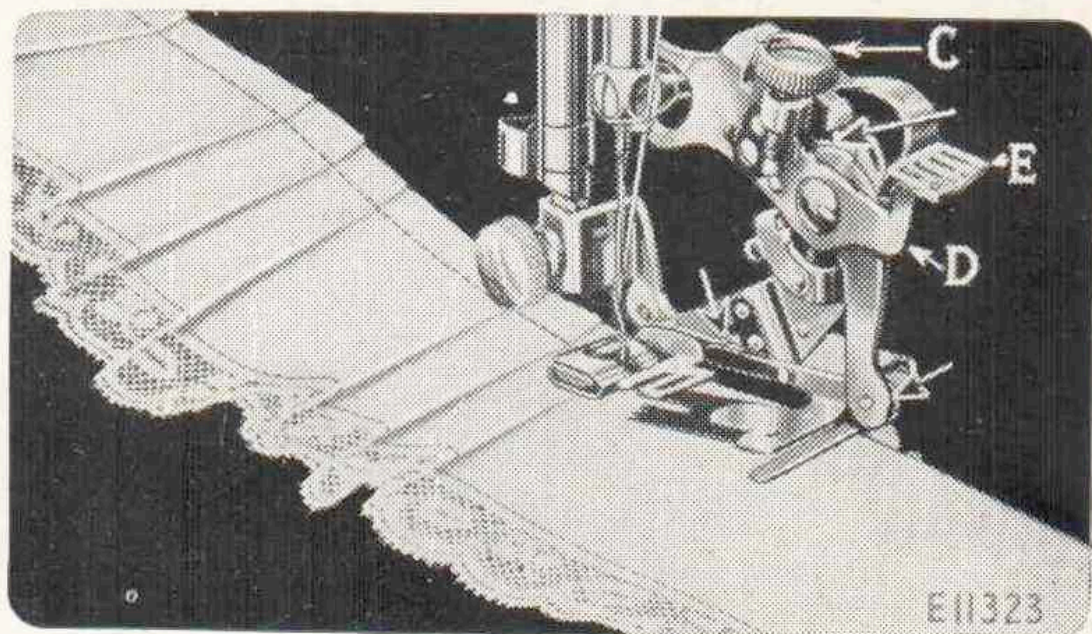

FIG. 48.
right so that the top of the projection (D) enters the small slot indicated by the star on the adjusting lever. This should be done at the points where you wish to make the space between the plaits. The ruffler will then stop and plain stitching will be made. When the desired space has been made, adjust the lever (E) so that the projection (D) enters either the slot marked "6" or the slot marked "12." By alternately making groups of plaits and plain spaces as shown in Fig. 48, very attractive work is produced.
Occasionally apply a drop of oil to the working parts of the ruffler at each of the places indicated by the unlettered arrows in Fig. 48. After oiling, operate the ruffler on a waste piece of material to prevent the oil soiling the work. If the ruffler does not plait evenly, a drop of oil may remedy the trouble.